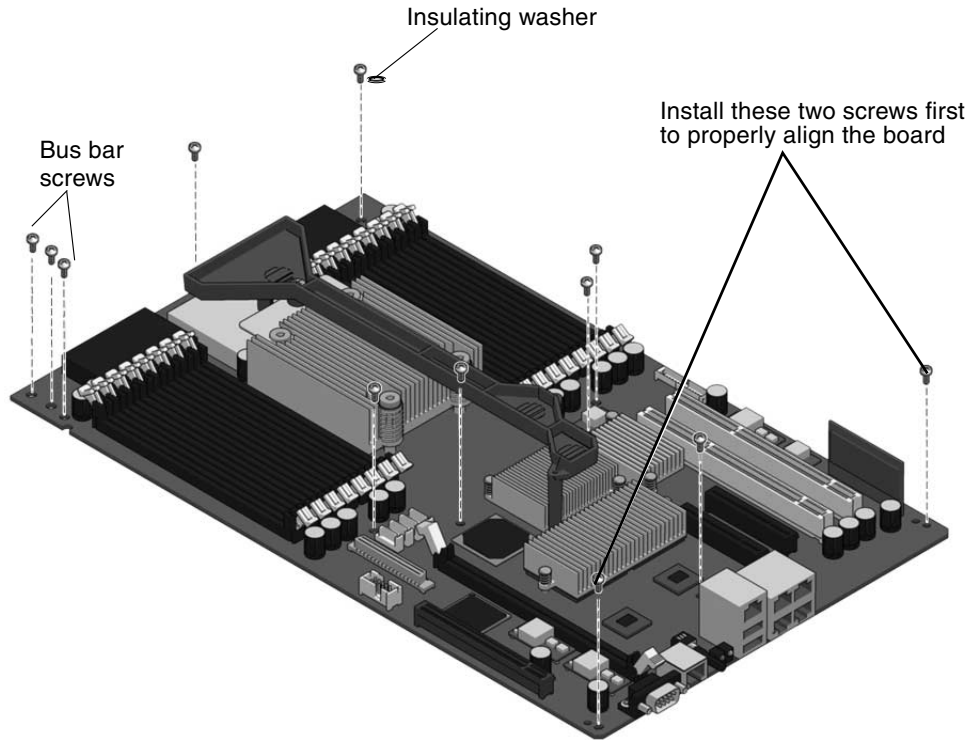

FIGURE 5-16 Securing the Motherboard Assembly to the Chassis
7. Loosely install two screws shown in FIGURE 5-16.
8. **Secure the motherboard assembly to the chassis with the remaining screws and an insulating washer (FIGURE 5-16).**
One insulating washer is required in the position shown in FIGURE 5-16. A washer is supplied with the replacement FRU. Install the washer in this position even if the original motherboard did not have a washer.